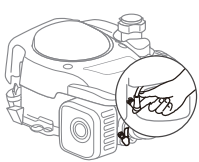

Fig.6A
1. The unit is equipped with a rubber boot over the end of the spark plug, making certain the metal loop on the end of the spark plug wire (inside the rubber boot) is fastened securely over the metal tip on the spark plug. Check to ensure that boot is firmly attached to the spark plug. (Fig.6A)